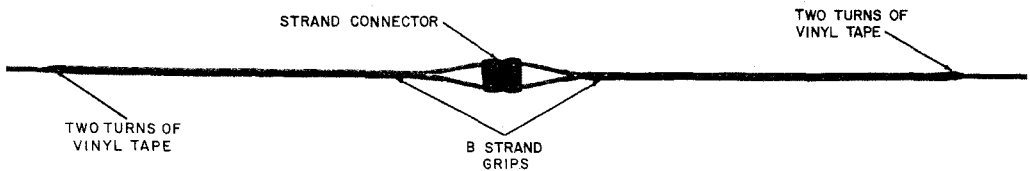

Fig. 4—Strand Connector with B Strand Grips at Midspan
2.04 The strand may also be joined using a strand connector and two B strand grips in basically the same manner as outlined in Section 627-240-212. These may also be used where the size of strand changes. Figure 4 shows suspension strand joined in midspan with a strand connector and B strand grips.